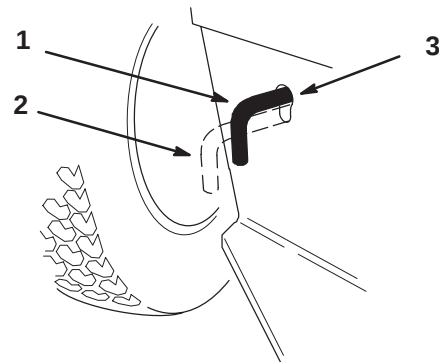

Figure 16
2. Move the drive control rod to the **push** position. This disengages the drive system and allows the wheels to turn freely (Fig. 16).
1. Move the drive control rod to the **operate** position (Fig. 16).